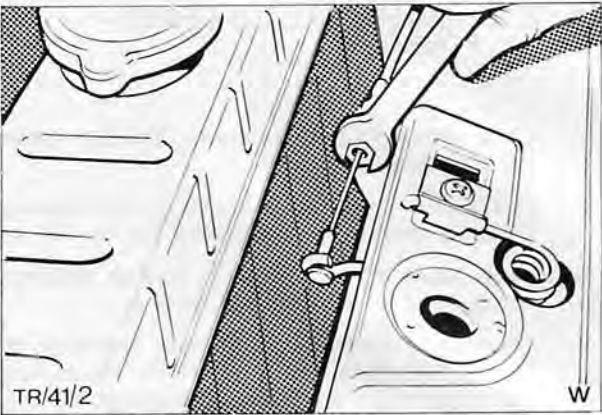

Fig. 7. Slackening hood release cable adjuster
2. Slacken hood release cable adjuster, Fig. 7, disconnect cable from spring.